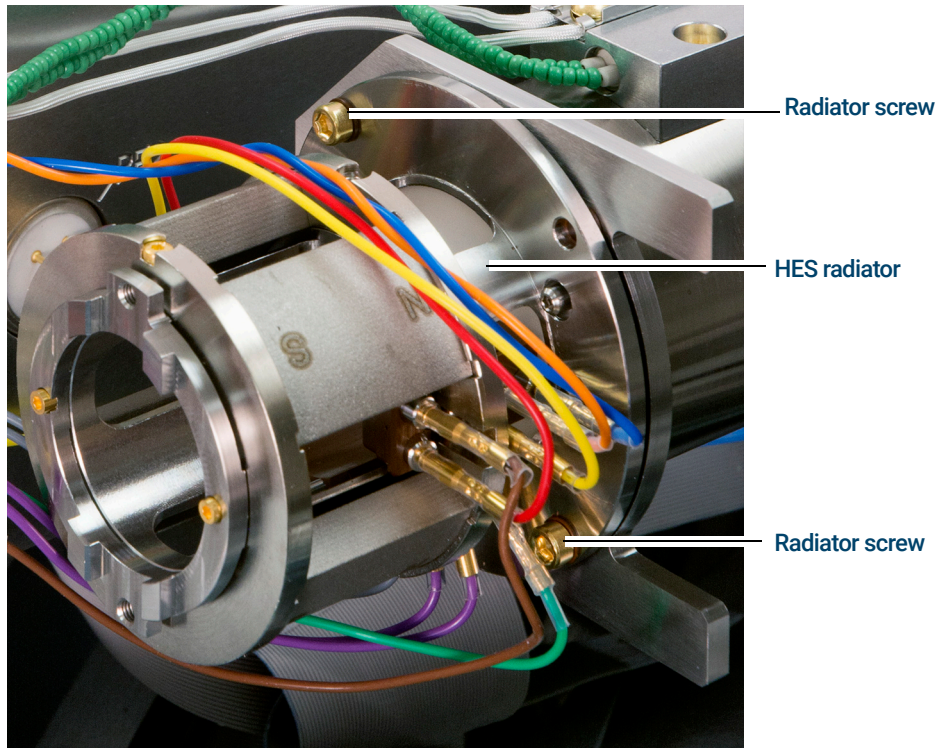

Figure 74. Securing the EI HES radiator
- 1 Place the radiator over the guide pins on the analyzer support and use a T10 Torx screwdriver to secure it using the (2) M3 × 12 gold plated screws (G7002-20110). (See Figure 74 on page 225.)